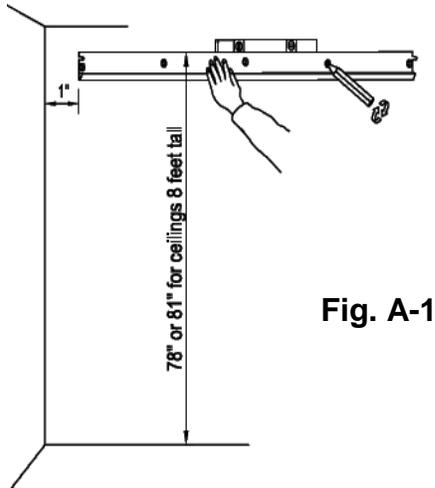

Fig. A-1
2. Determine the maximum height of storage you would like available above your system. (See Fig. A-1). For an 8 foot ceiling; 78" off the floor leaves 18" of storage above and 81" leaves 15" storage above.
4. (Refer to Fig. A-1 & A-2) Using a level, align top of top track with your pencil mark in step 3. With Top Track level, mark the center of each hole location on your wall. (Note: Before starting to drill holes; always make sure screw hole locations do not fall in line with electrical wires, duct work or plumbing inside your wall. If a potential problem exists, reposition and re-mark screw hole locations.)